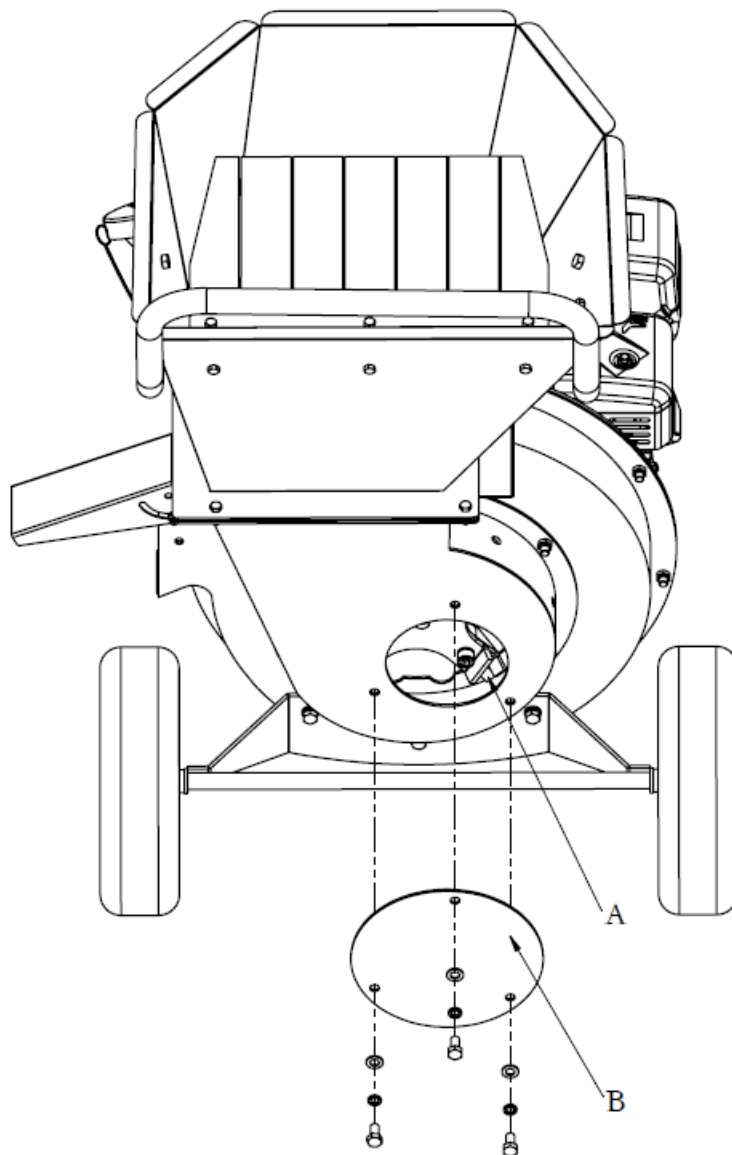

Figure 7
#### **Inspect / Rotate Shredding Hammers (See Figure 7)**
2. Remove the small circular access panel (B) from the back of the shredder housing. See Figure 7.
3. Inspect the cutting edges of the Y-hammers (A).